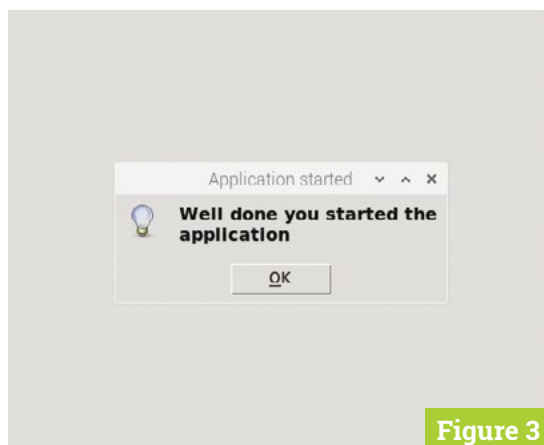

Figure 3
► Figure 3
Running your application, you will see that an 'info' box appears (**Figure 3**). The first parameter passed to info is the title of the window; the second parameter is the message.